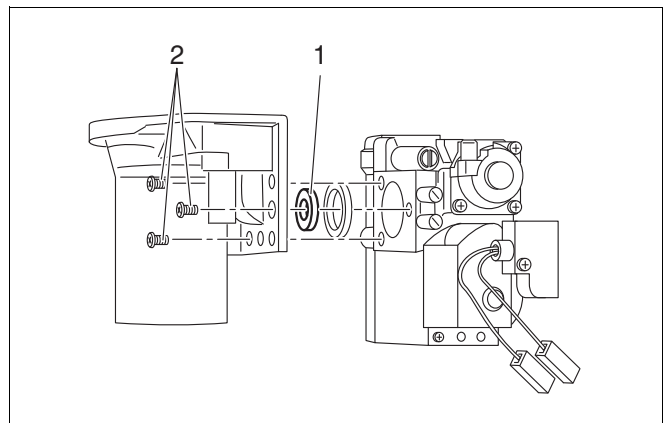

Fig. 80 Replacing the gas burner fitting on the 600 Series: Replace the gas burner fitting
- Loosen the three screws (fig. 80).